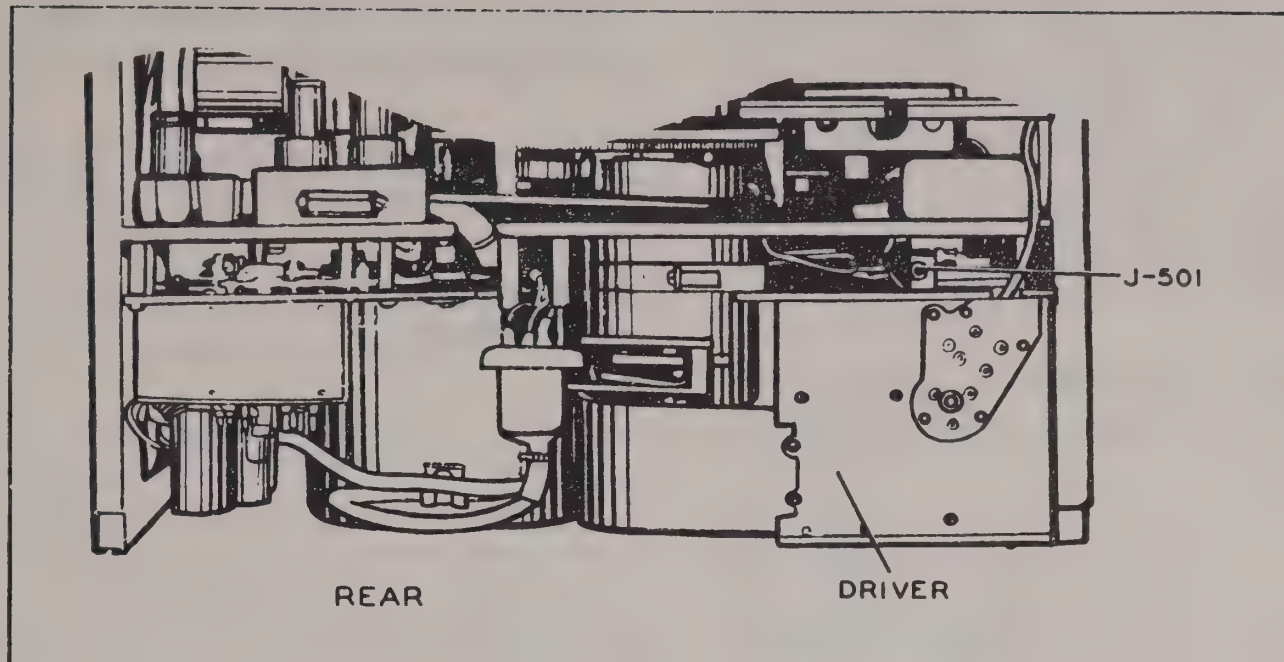

Figure 3-3 Radio Transmitter T-217A/GR, Partial Bottom View,
(31) Disconnect the VTVM DC probe from C-302 and connect it to J-501 on the Driver Unit. See Figure 3-3.
(32) Set the VTVM RANGE switch to the 10 V position and zero the meter.
(33) Leave the three numbered CHANNEL switches at 399.9 mc.
(34) Set the VOICE-MCW CARRIER On switch on the modulator to the MCW CARRIER ON position. The VTVM indication should be no less than 1.5 volts. If the VTVM reading is less than 1.5 volts, alignment is indicated.
(35) Set the VOICE-MCW CARRIER ON switch to the VOICE position.
(36) Repeat Steps (34) and (35) at each of the following CHANNEL switch settings: